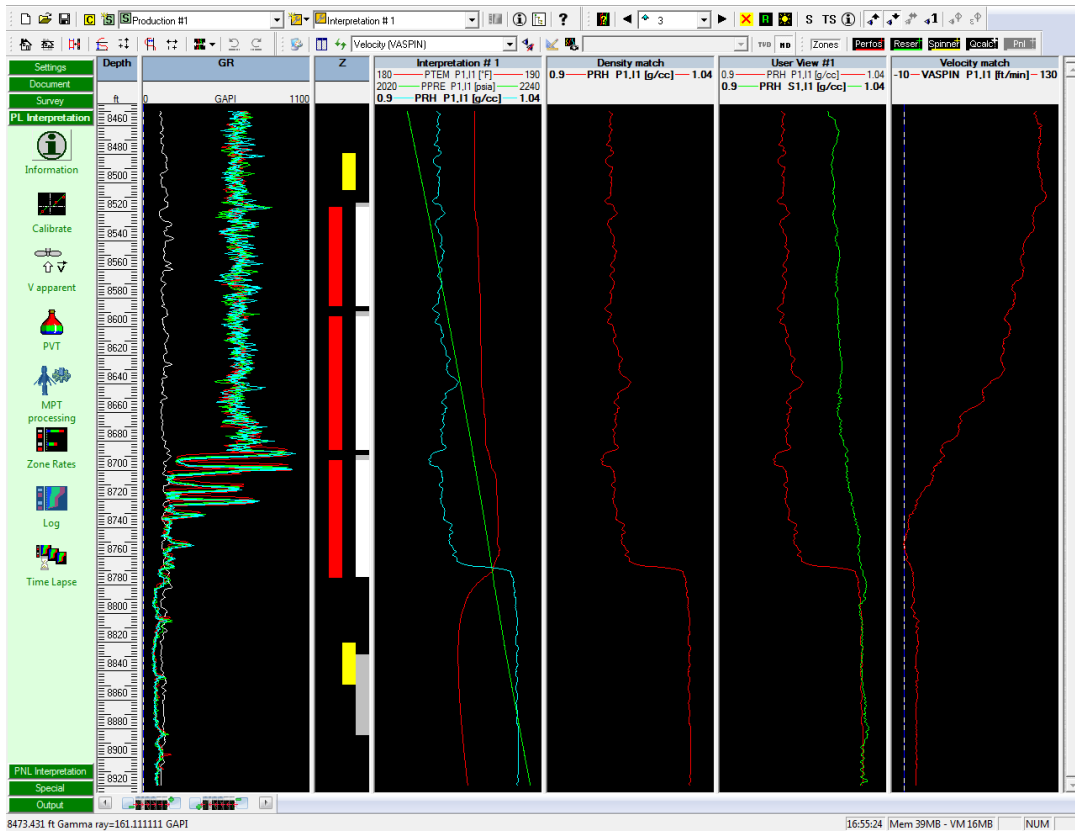

Fig. B02.26 • Apparent velocity log calculated
- Click OK and the velocity log is calculated, Fig.B02.26 (we have hidden the views for cable speed, spinner, temperature, pressure, and density, and VASPIN).